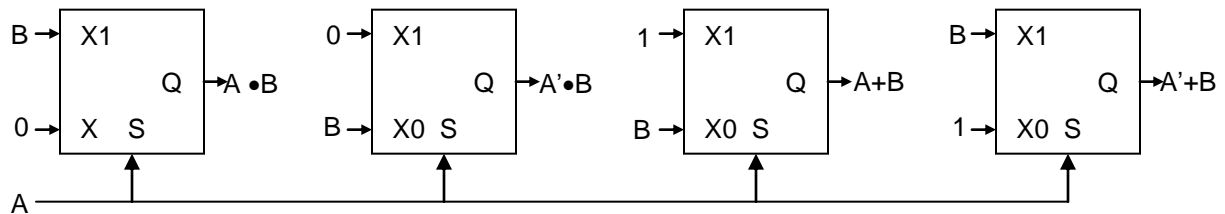

Fig. 3.3 Boolean Functions of A and B using a quad 2-input Multiplexer
3. Note that though the two 8-input multiplexers **MUX₀** and **MUX₁** require 16 inputs, they involve only 6 distinct Boolean functions of A, B, C – $A \bullet B, A' \bullet B, A + B, A' + B, A \oplus B$ and $A \oplus B \oplus C$. The first four terms are realised by four 2-input multiplexers as shown in **Fig. 3.3**. This implementation requires only one chip, whereas any implementation using gates would need more, as a single gate chip contains only one kind of gate (AND/OR/NAND/NOR). Assemble the circuit given in **Fig. 3.3** and verify its operation by actual tabulation of the observed outputs for all combinations of values of A and B applied from two Input Switches.